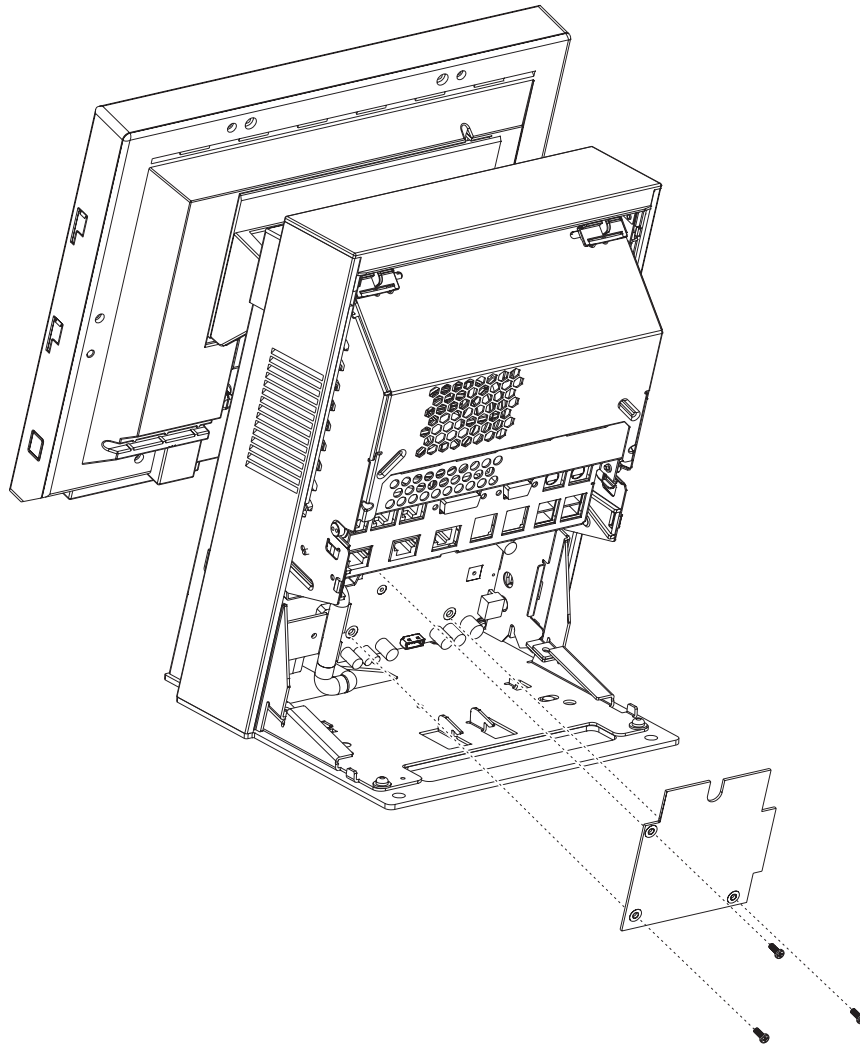

Figure 36. Video adapter card removal
4. Remove the three screws shown in Figure 36 and remove the video adapter card.